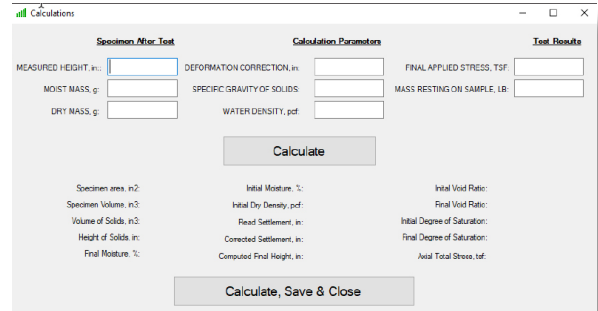

Figure 12: Calculations Menu
8. Once final values have been obtained make sure the correct test file is open then select the **Calcs & Reports** button. Enter the **Specimen After Test** values and **Calculation Parameters** into the Calculations menu (Figure 12) then select **Calculate**. The calculated values will appear in the bottom half of the calculations menu. Select **Calculate, Save & Close** to save these calculated values to the testing report file.